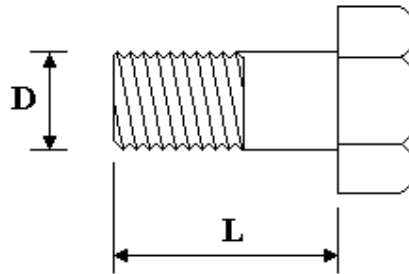

Figure 6
- B. Measure the length (L) and diameter (D) of the bolt and record the information on the DOT-96. See figure 6.